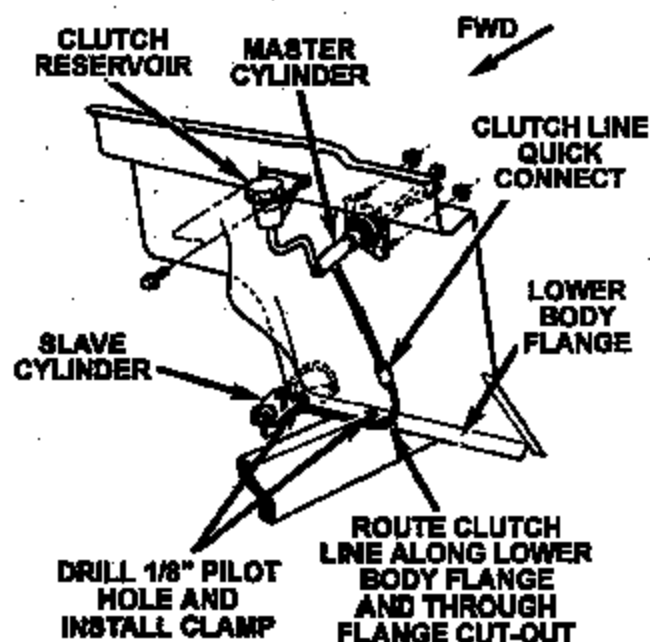
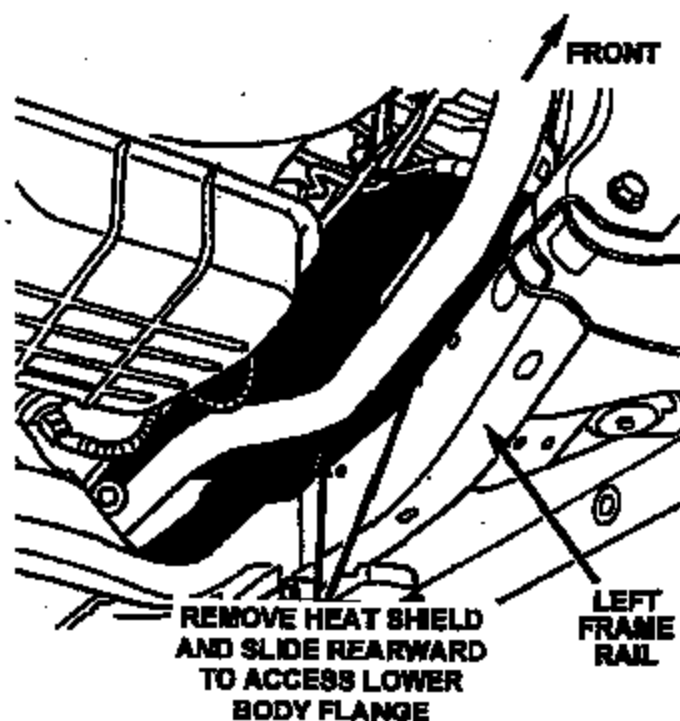

Figure 3
Figure 4
17. Position the new clutch master cylinder into the vehicle so that the clutch line quick connect fitting is located downward against the lower dash panel and rearward of the inner fender (Figure 3).
25. Route the flexible clutch line along the REAR side of the lower body flange and OVER the fuel line (Figure 3).
27. Remove the fuel line heat shield located on the inside of the left frame rail (Figure 4). Slide the heat shield rearward to access the lower body flange.
28. Remove the rearmost three (3) plastic rivets from the left front wheel well splash shield. Pull the splash shield forward to access the lower body flange.
29. Drill two (2) $\frac{1}{8}$ " pilot holes through the lower body flange as shown in Figure 3.
NOTE: Install the inboard clamp first. Make sure that the clutch line is routed through the lower body flange cutout (Figure 3).
32. Install the fuel line heat shield (Figure 4).